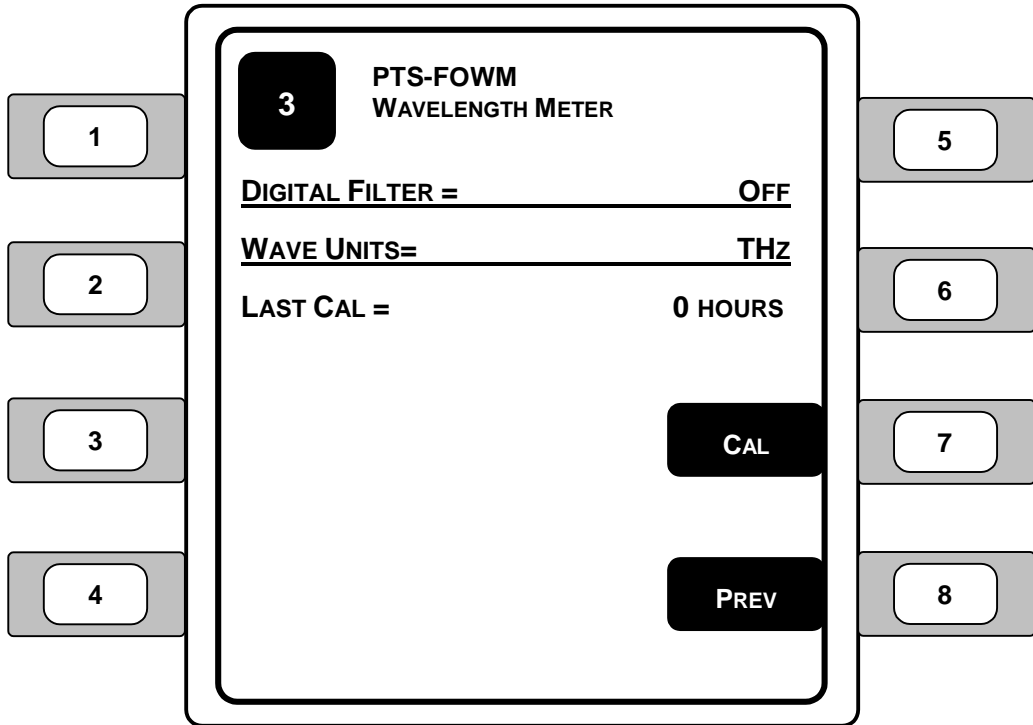

Figure 51 – Wavelength Meter Setup Screen
2. **STOP/RUN** – This button toggles between Stop and Run. When STOP is displayed and the adjacent soft key (key 5) is pressed, the system starts updating the wavelength and power readings. When RUN is displayed and the adjacent soft key (key 5) is pressed, the system stops.
3. **SETUP** – See **Figure 51** (Wavelength Meter Setup Screen) for additional information.
The wavelength meter setup is shown in **Figure 51**. The wavelength meter control allows you to choose a filter, power units, and a conversion factor.